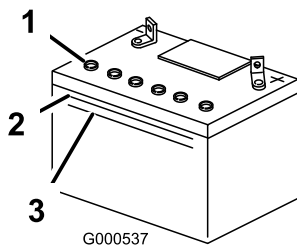

Figure 41
- Look at the side of the battery. The electrolyte must be up to the **upper line** (Figure 41). Do not allow the electrolyte to fall below the **Lower line** (Figure 41).
- Remove the vent caps from the battery (Figure 41).
- Slowly pour distilled water into each battery cell until the electrolyte level is up to the Upper line (Figure 41) on the battery case.
- Wait five to ten minutes after filling the battery cells. Add distilled water, if necessary, until the electrolyte level is up to the Upper line (Figure 41) on the battery case.